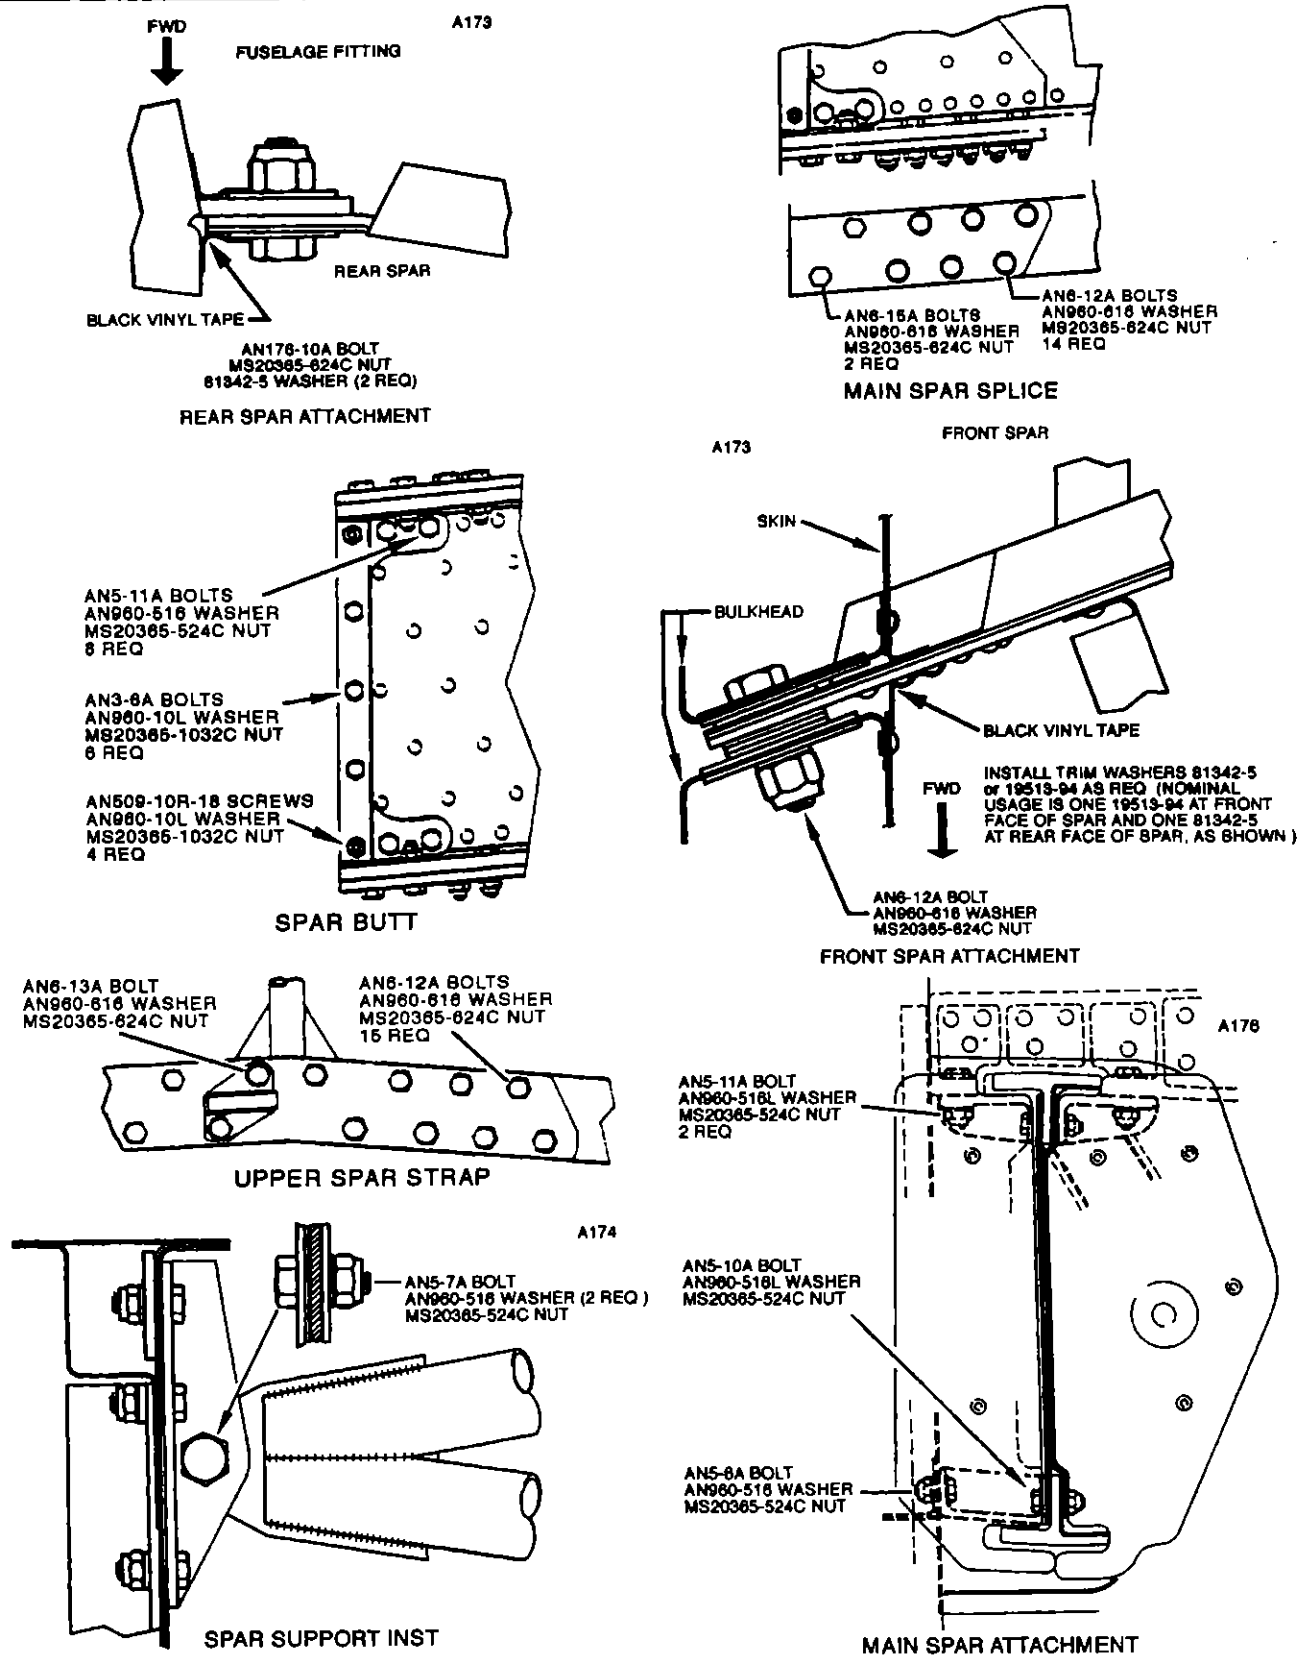

Figure 4-2. Wing Attachment Fittings
**4-23. Installation Of Wing. (Refer to Figure 4-2.)**